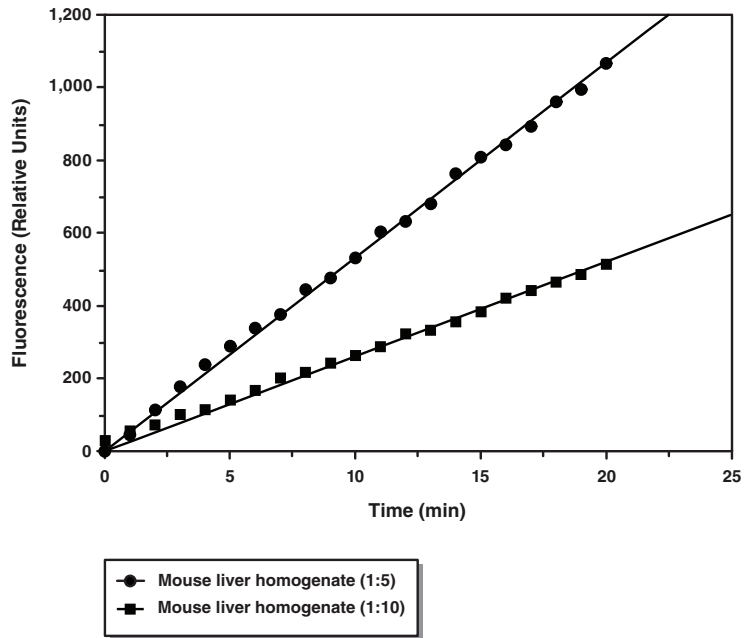

Figure 3. Reaction time course for mouse liver homogenate diluted 1:5 and 1:10
- a) Obtain the slope (rate) of the linear portion of the curve. An example of mouse liver homogenate is shown in Figure 3, on page 20.